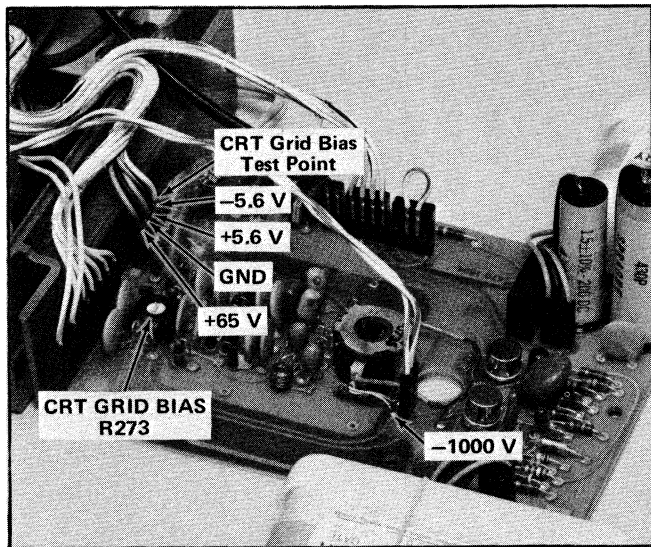

Fig. 4-1. Location of power supply test points and CRT Grid Bias adjustment.
a. Using the DC voltmeter, measure the DC level of the power supplies given in Table 4-1. Observe proper meter polarity. See Fig. 4-1 for test point locations.
a. Connect the DC voltmeter between pin 5 and pin 2 of plug P3 (negative meter lead to pin 2) on the Power Supply Board. See Fig. 4-1.
d. ADJUST—CRT Grid Bias adjustment R273 (see Fig. 4-1) for a meter reading of +1.9 volts.